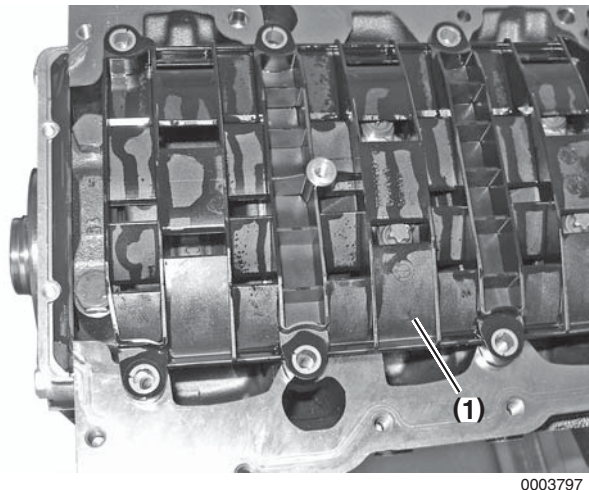

Figure 5-46
3. Remove the oil deflector (**Figure 5-46, (1)**).